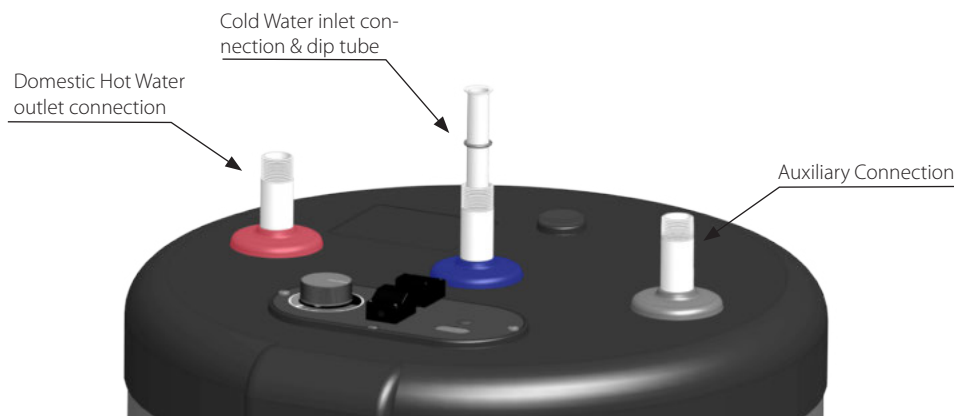
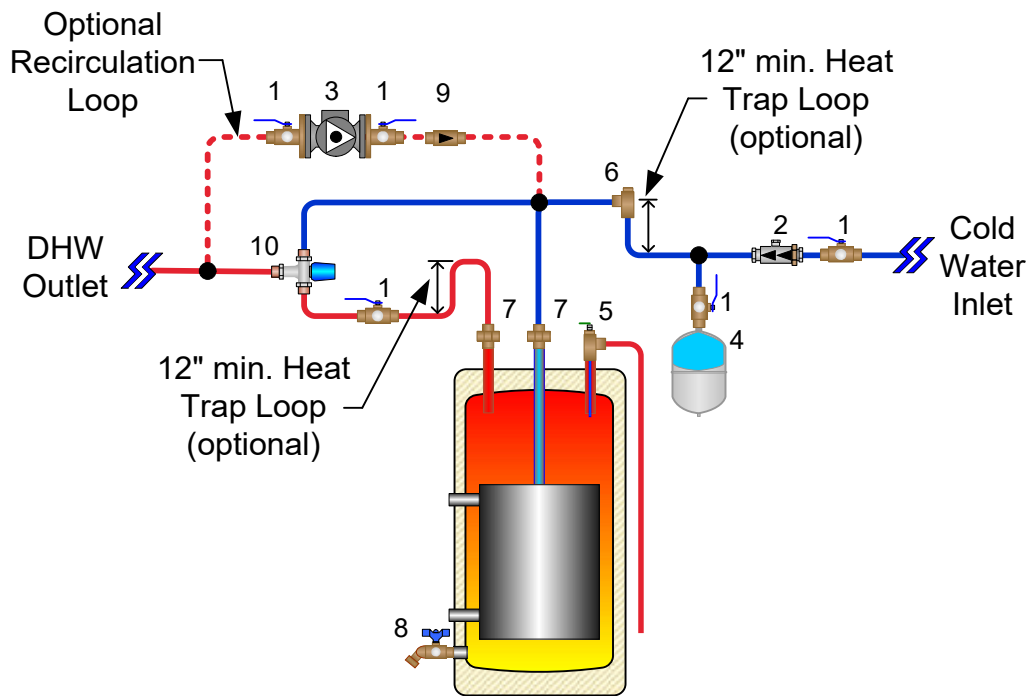

Fig. 3 - GINIUS Domestic Connection Arrangement
Fig. 5 - Standard Installation Domestic Piping with optional Recirculation - GINIUS Series
- Install T&P relief valve in the **Auxiliary** connection located on the right side of the water heater top cap (Refer to *Fig 3 below and Fig. 5 on page 7*).
- For domestic water piping diagram, see *Fig. 5 on page 7*.